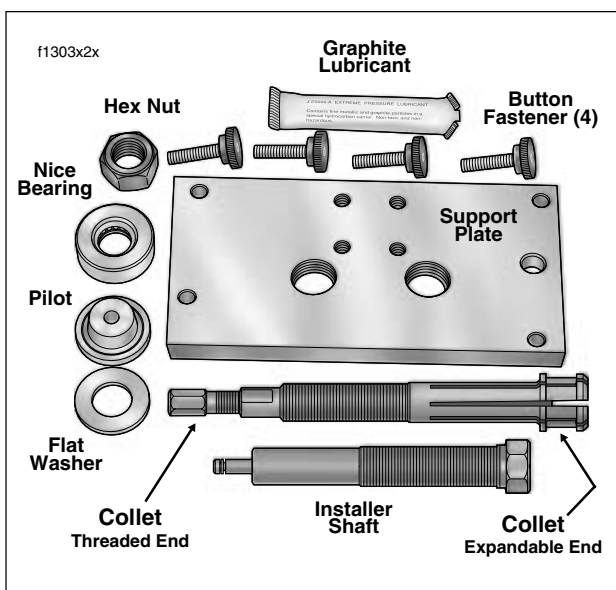

Figure 3-118. Camshaft Needle Bearing Remover/Installer (HD-42325)
2. Remove four button fasteners from threaded holes in support plate, if installed. See Figure 3-118.